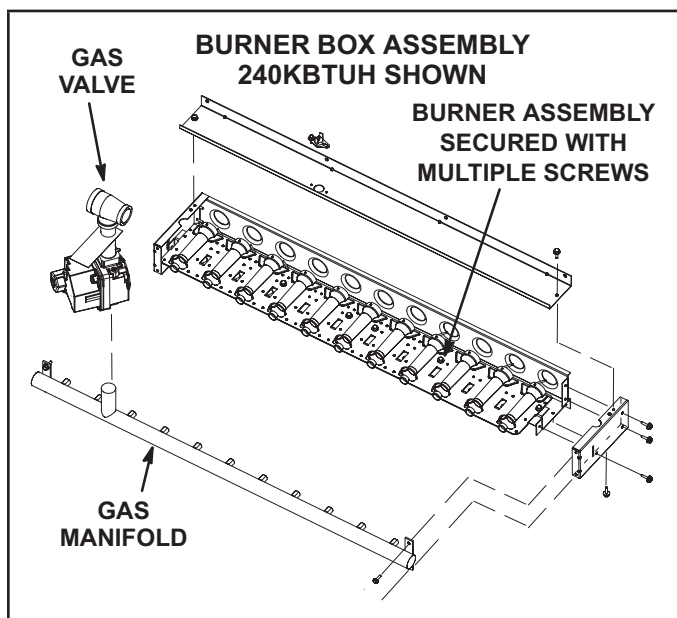

FIGURE 30
- 3 - Remove screws securing burner assembly to burner support and remove assembly. See FIGURE 30. Clean as necessary.